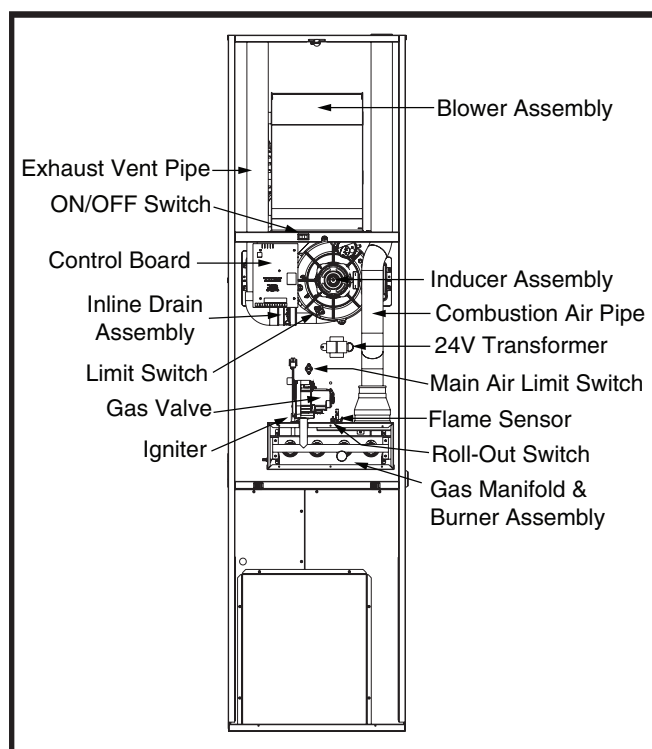

Figure 24. Furnace Components
If the burners must be cleaned, follow steps 1-12. See Figure 24 for component location.
- If the inducer blower is operating, and items above have been verified, check the blower limit switch and reset if necessary. See Figure 24 for component location.
The descriptions below are various functional components that affect the operation and shutting down of this furnace. Some of these components and their locations are shown in Figure 24. If any component of the furnace must be replaced, use only factory authorized replacement parts specified in the Replacement Parts List provided online.